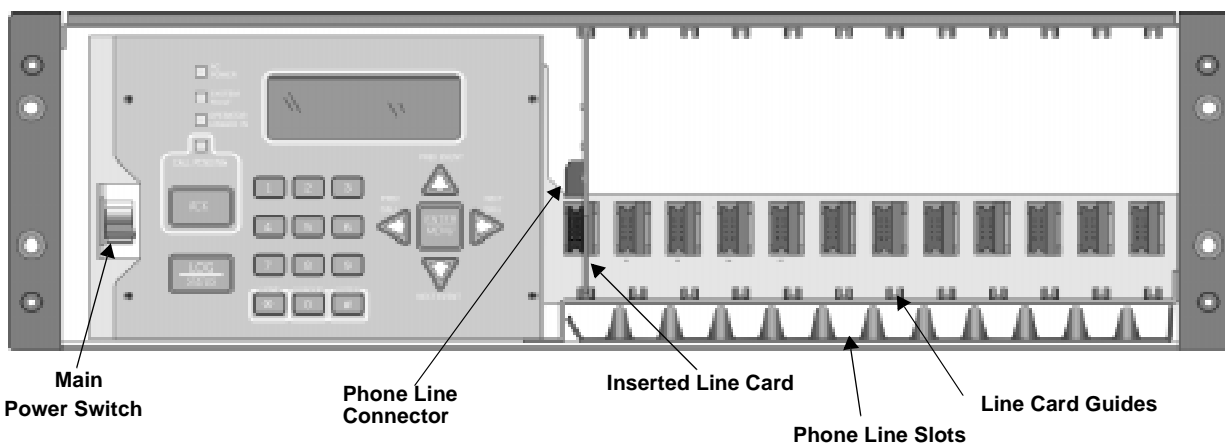

Figure 3-2 Model 9800 Front View Without Front Plate Attached
2. Turn off the 9800's AC power switch (see Figure 3-2 for power switch location).